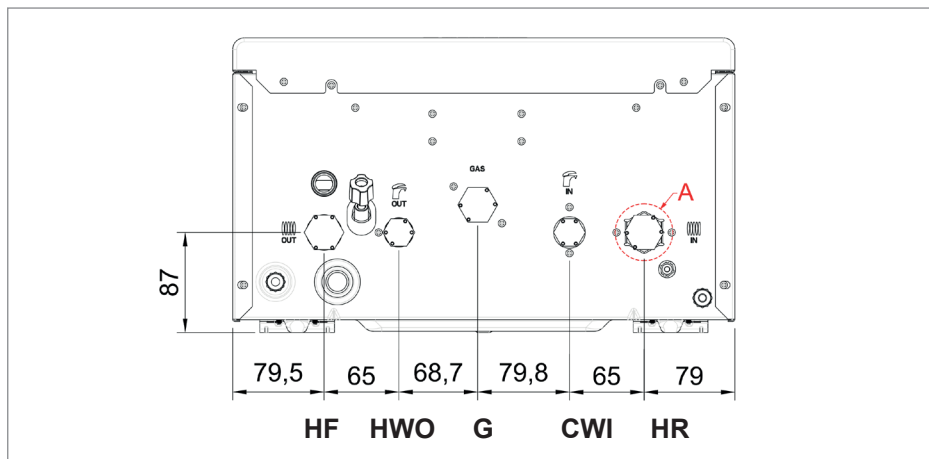

Figure 16. Water connections
- ⚠ The fitting placed under pump (Figure 16 – see Detail A) must be tightened with torque of maximum 18 Nm in case of rubber gasket use. This value is 30 Nm in case of cylinder head gasket use.